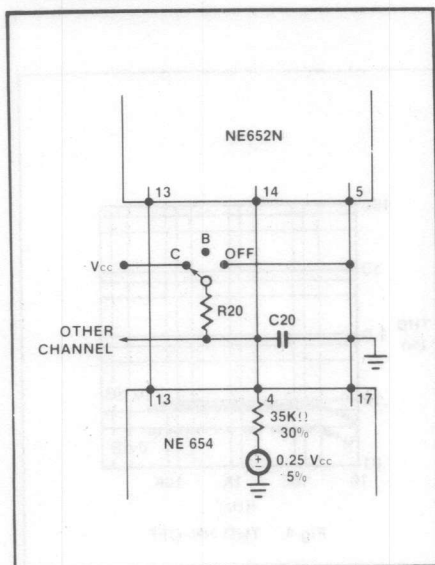

Figure 10. Optional external time constant for mode switch.
- In the open position (B) of the mode switch, pin 14 of NE652 is pulled to typically .25 V_{CC} by NE654.
- For a typical application see Fig. 10. Worst case considerations for the V_{CC} range (8-20 volts) limit the optional external resistor value. R20 value is equal to 6.8k Ω divided by "N" where "N" equals the number of switched channels.